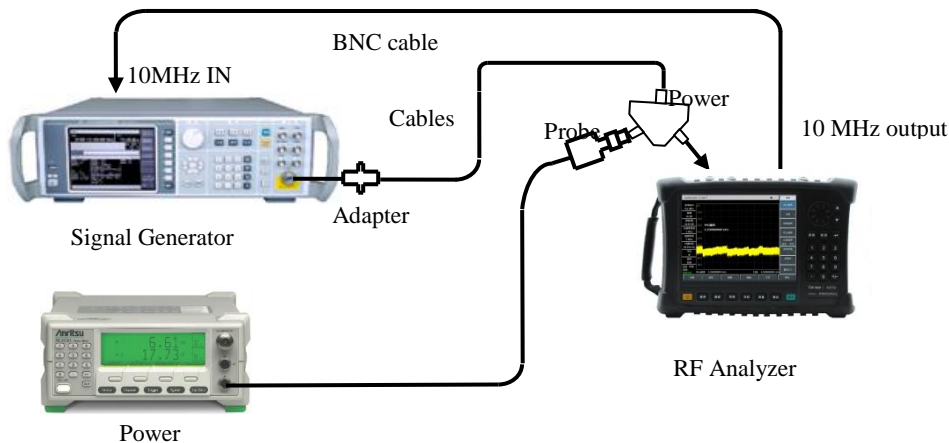

Figure 16-16 Settings for Test of Reference Level Uncertainty and Scale Fidelity
- b) Connect the test equipment according to Figure 16-16. The instrument is used to provide